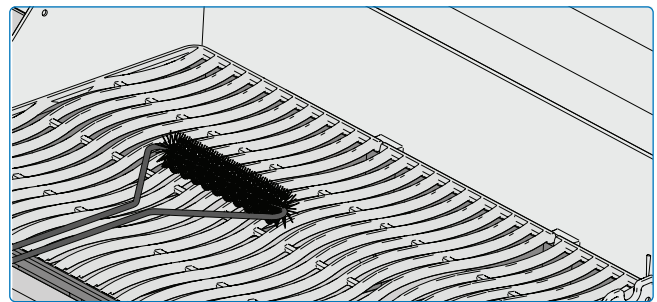

Fig. 18
- To clean, preheat the grill and use a wire brush to remove food residue (**Fig 18, 19, 20**).